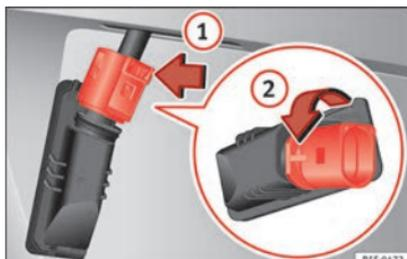

Fig. 224 Number plate light: Remove the bulb holder.
3. In the connector lock, turn **» Fig. 224** towards the arrow **1** and pull the connector.